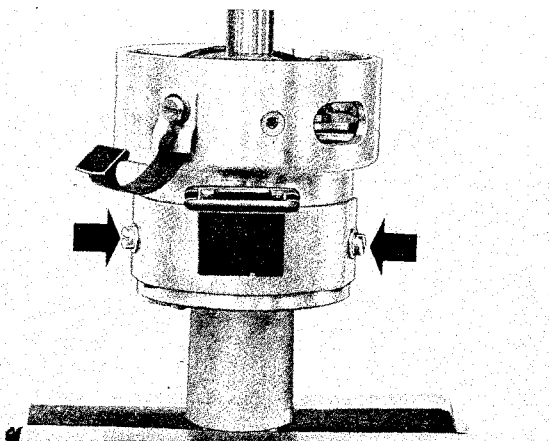

Fig. 3-79. Removing triggering contacts
3. Remove the triggering contacts, see Fig. 3-79.